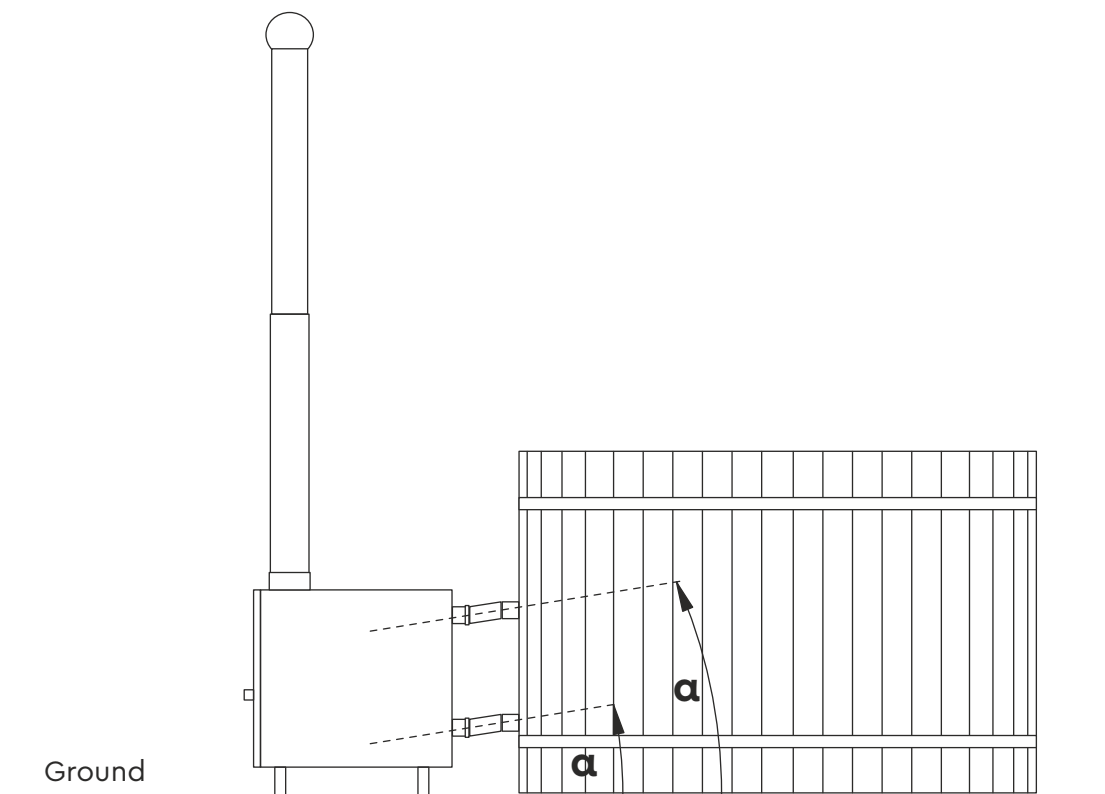

Fig. 4
- The external heater must be installed on the same surface and height as the hot tub. See Fig. 4.